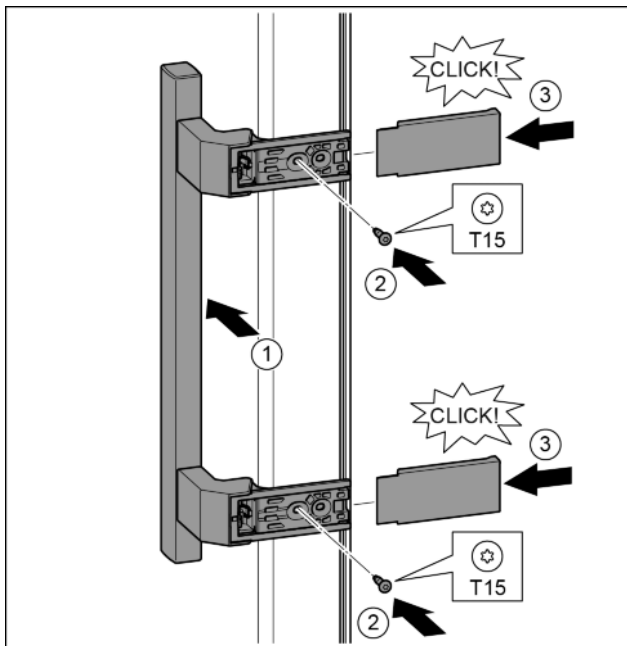

Fig. 31
- Position the handle on the other side. Fig. 31 (1)
- Tighten the screws with the T15 screwdriver. Fig. 31 (2)
- Position the covers on the side and push in. Fig. 31 (3)